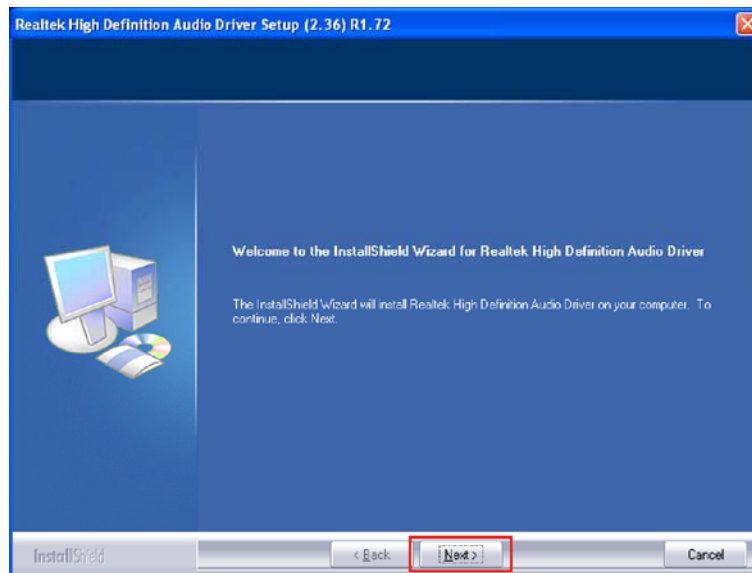

Figure 6-22: InstallShield Wizard Welcome Screen
Step 3: The audio driver InstallShield wizard begins (**Figure 6-22**).